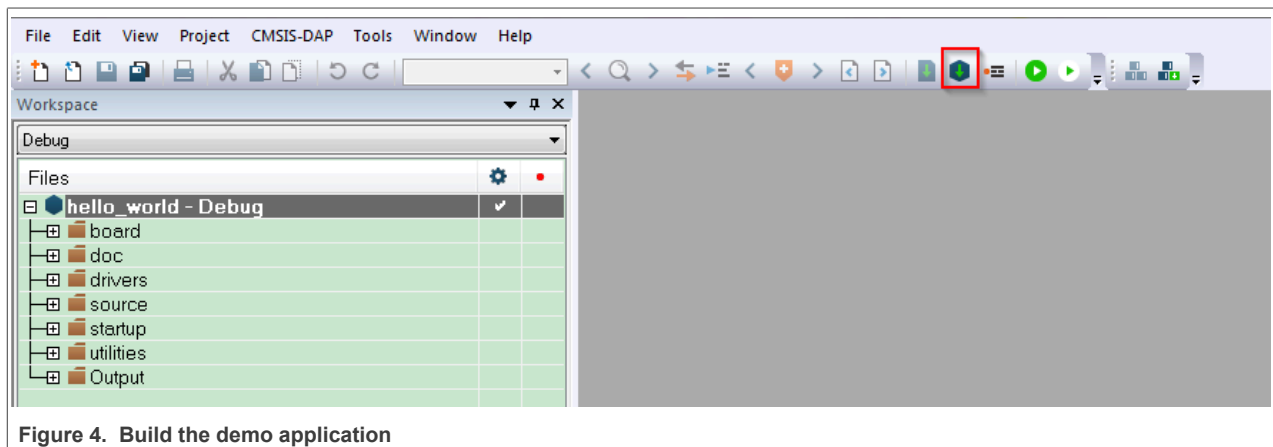

Figure 4. Build the demo application
- To build the demo application, click **Make**, highlighted in red in Figure 4.